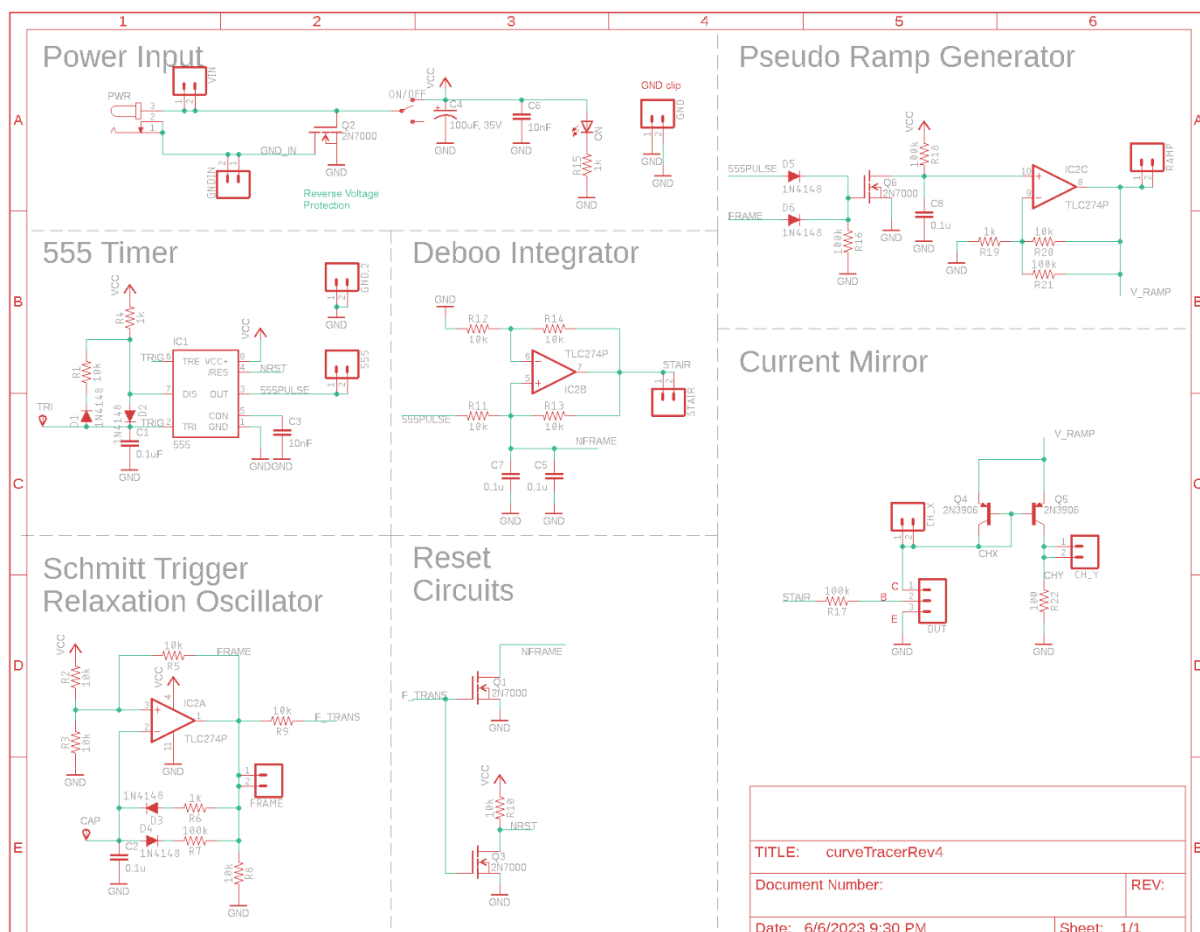

Figure 1: The complete BJT curve tracer. Note we will only populate 1 of the C5 or C7 0.1μF capacitors in our circuit.
In this third lab of the BJT Curve Tracer, shown in Figure 1, you will explore the Deboo Integrator, a circuit that takes the integral of its input.
The Deboo Integrator in the BJT Curve Tracer in Figure 1 gets its input from the 555 Timer output pulses (555PULSE in Figure 1). The next set of questions seeks to understand how the Deboo Integrator output will look like when it receives these pulses.
1. Using the values of resistance and capacitance in Figure 1, compute the weighting factor $2/RC$ for the Deboo Integrator output. Note, I created the PCB with a parallel combination of 0.1uF capacitors C5 and C7 forms a 0.2uF capacitor. Why not just use a single 0.2uF capacitor? Two words, *inventory management* – it's easier to manage the inventory of 0.1uF capacitors that are used in all sorts of PCBs, then it is to stock a wide variety of odd-ball capacitor values that are used just once. After a lot of testing, a single 0.1uF works better.
You would be right in concluding the staircase function will only increase as more-and-more 555 timer pulses are applied to its input. To prevent this, we will need a way to periodically remove the charge from the capacitor. We will accomplish this using the frame signal from the Schmitt Trigger Relaxation Oscillator and the Q1 MOSFET shown in Figure 1.
Take a moment and look for the Q1 MOSFET in Figure 1.